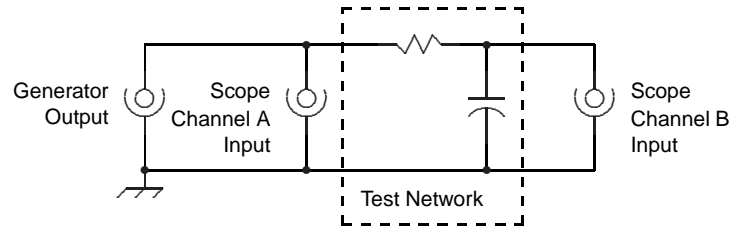
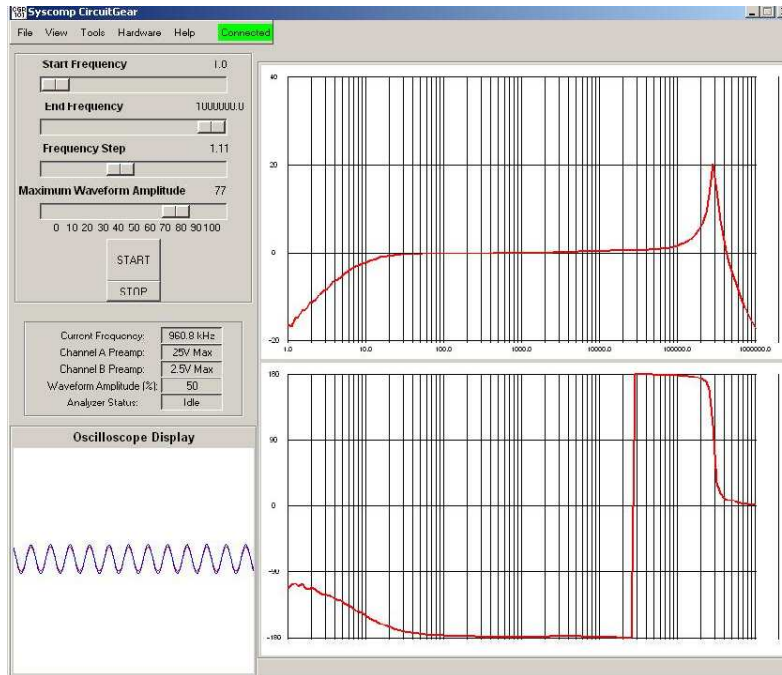

Figure 11: Network Analyser Wiring
Figure 12: Vector Network Analyser
Figure 12 shows a screen shot of a VNA plot of a single-pole RC lowpass filter. Figure 11 shows how the test circuit must be wired. Notice that there is no internal connection between the generator output and the channel A input. The instrument grounds are connected internally, so only one ground wire is required to the external circuit.
in place of the capacitor in figure 11. Choose the resistor to be larger than the maximum impedance of that component. Then, in effect, the device is driven by a constant current and the voltage across the device is proportional to its impedance.
The display of figure 12 is the amplitude and phase response of a small 1:1 audio transformer. The primary was driven by the generator and connected to Channel A. The secondary was connected to Channel B.
- The amplitude dynamic range of the VNA is in excess of 50db. The VNA automatically adjusts the input signal attenuators of the oscilloscope section to obtain the best possible signal-noise ratio without clipping. It also uses the full 10 bit range of the oscilloscope A/D converters. In the frequency response plot of figure 12, the amplitude and phase plots become erratic at high frequencies. This occurs because the output signal from the low pass filter is extremely small in that region.